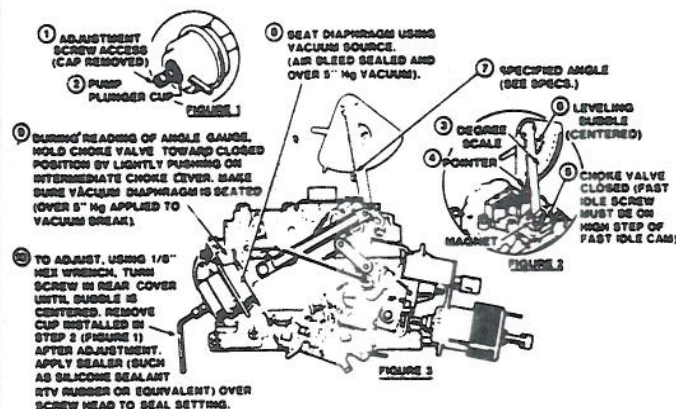

Fig. 15 Secondary vacuum break adjustment. 1982 E2SE carburetor
1. Rotate degree scale so that zero is opposite pointer, then with choke valve completely closed and fast idle screw on high step of fast idle cam, place magnet on top of choke valve and rotate until bubble is centered, Fig. 15.